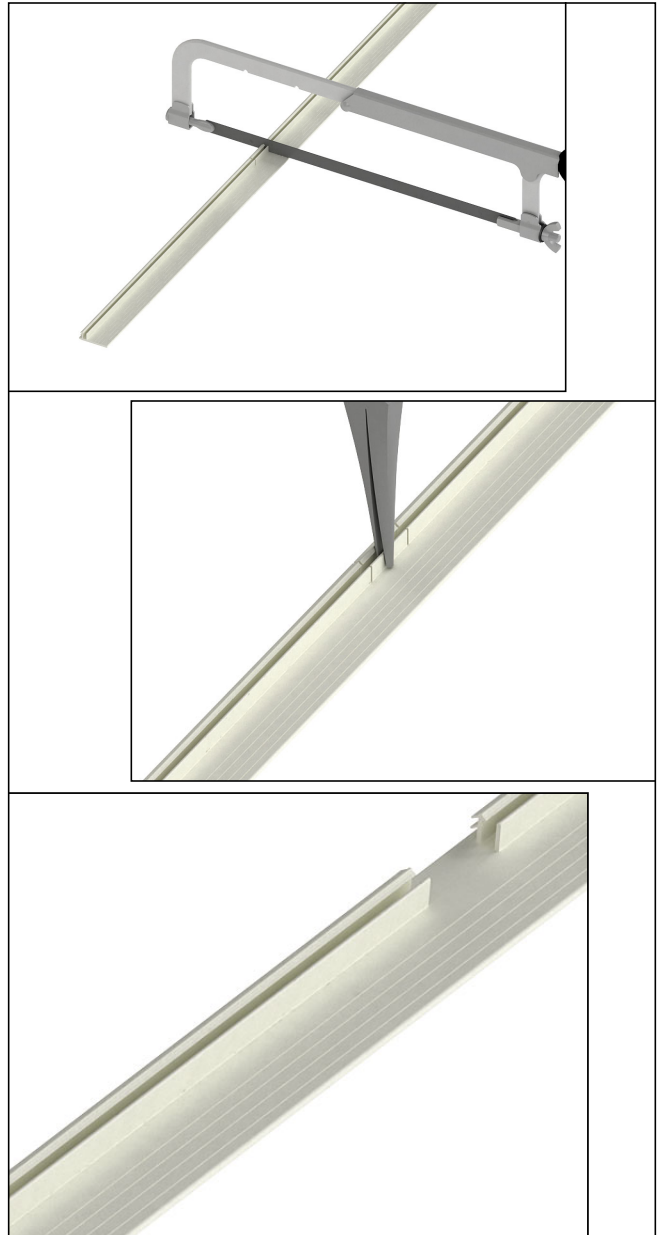

Figure 2
2. If frame expander is to be applied to a mullled unit assembly, prepare the frame expander pieces by removing the legs on the back side of the frame expander at each mull location. Measure to the center of where the notch is to be located, then cut the legs with a utility knife or hacksaw and remove each leg with pliers to the widths specified in the chart below. See figure 2. *Exception: Sill pieces for multiple wide ELDHIN mulls do not need to be notched to span across vertical mulls.*